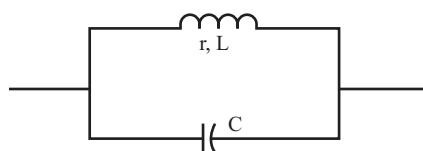

FIGURE 7.14
- 10** You can connect the capacitor and inductor in parallel, as shown in Figure 7.14.